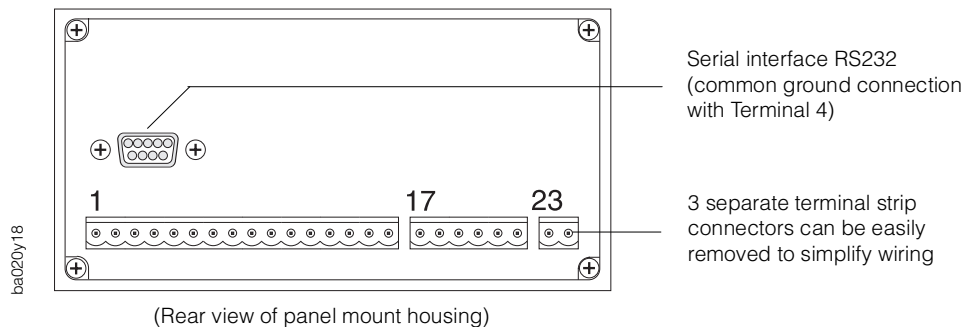

Fig. 4:
- Wall mount housing (see Fig. 4)